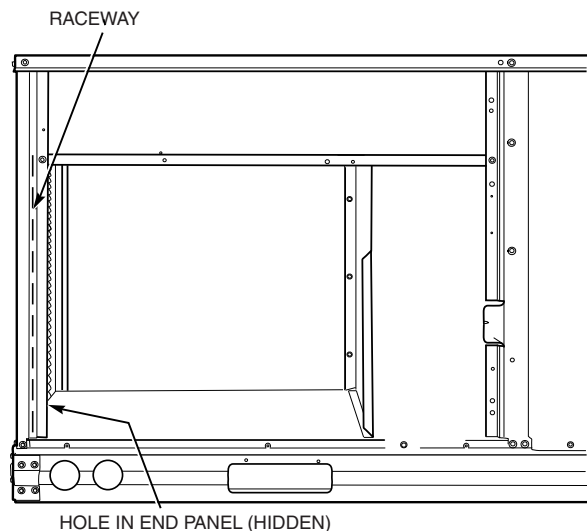

Fig. 63 — Field Control Wiring Raceway (Sizes 07-14 Only)
Pass the thermostat control wires through the hole provided in the corner post; then feed the wires through the raceway built into the corner post to the control box. Pull the wires over to the terminal strip on the upper-left corner of the Controls Connection Board. See Fig. 63.
2. Feed wires through the raceway built into the corner post (see Fig. 63) to the 24-v barrier located on the left side of the control box. The raceway provides the UL-required clearance between high-voltage and low-voltage wiring.